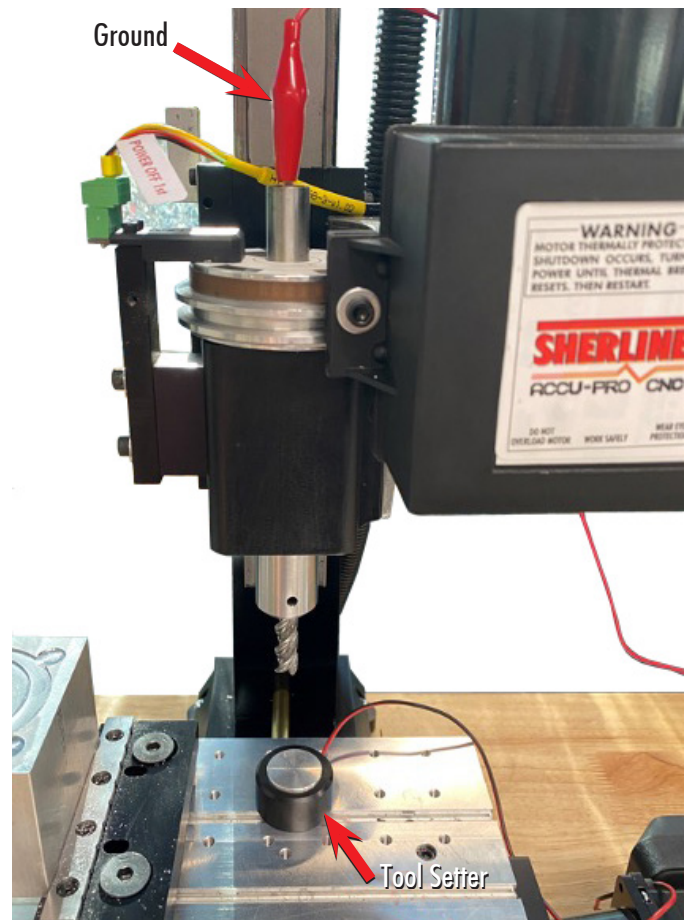

FIGURE 2
2. Clip the ground alligator clip onto the top end of the spindle (see Figure 2).
3. Place the tool setter on the tooling plate close to the X/Y-axis home position (see Figure 2).